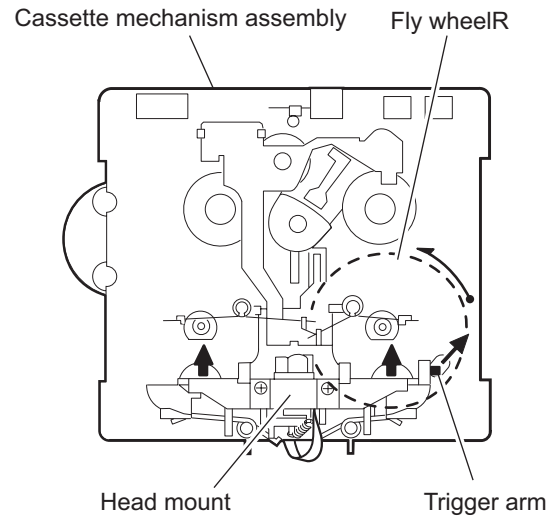

Fig.1
2.2.1 Removing the Play/Record & Clear head (See Fig.1~3)